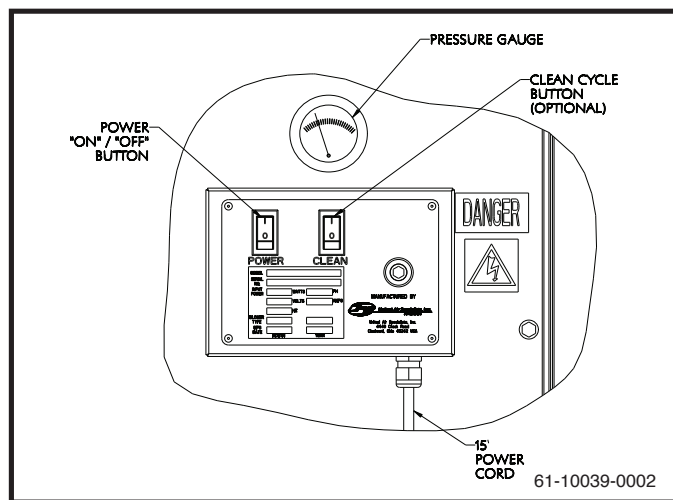

Figure 6. Control Panel Layout Detail
3. Turn the unit on by pushing the "Power" rocker switch to the ON position (refer to Figure 6). On 3-phase units, fan rotation will need to be verified by matching fan rotation with the rotation decal on the blower housing. Rotation should be clockwise as viewed from the motor or drive side. Any two motor starter leads should be reversed if the rotation is not correct.
2. Check pressure drop on the pressure gauge (see Figure 6). Pressure drop across elements is considered normal between 0.5-5.0" w.g. Pressure drop will generally read between 1-2" for "seasoned" filters.
All units will have the blower controlled from the unit control panel (refer to Figure 6). A black ON/OFF rocker switch is provided to start/stop the blower.
Control of the reverse pulse cleaning system is by a rocker switch on the unit control panel (refer to Figure 6). The pulse cleaning system operates independent of the blower. This provides for off-line cleaning.